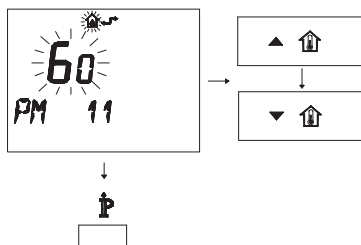

Fig. 7.35
- To modify the programmed SET, act on buttons  or  and wait for the programmed number to flash (Fig. 7.35). Each step increased or decreased corresponds to 1 second.